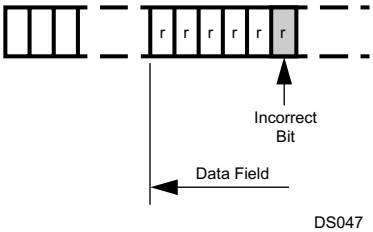

**Figure 15-30. EBID Example**
**EBID** The Error Bit Identifier field reports the bit position of the incorrect bit within the erroneous frame field. The bit number starts with the value equal to the respective frame field length minus one at the beginning of each field and is decremented with each CAN bit. Figure 15-30 shows an example on how the EBID is calculated.